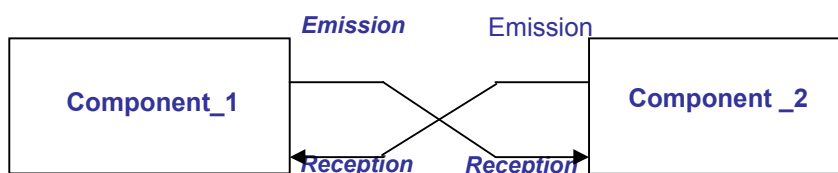

Figure 110 : Cross field for Inputs/Outputs
- ◆ Click in the *Crossfield* column which is used to show a bidirectional flow (Figure 110)